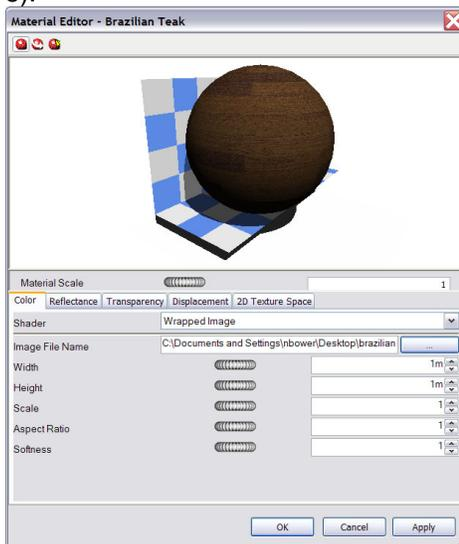

Figure 5
4. The image file is now wrapped around the sphere and can be applied to objects in the scene to be rendered. You will also have the ability to manipulate the scale, and overall size of the image pattern in this dialog (Figure 5).